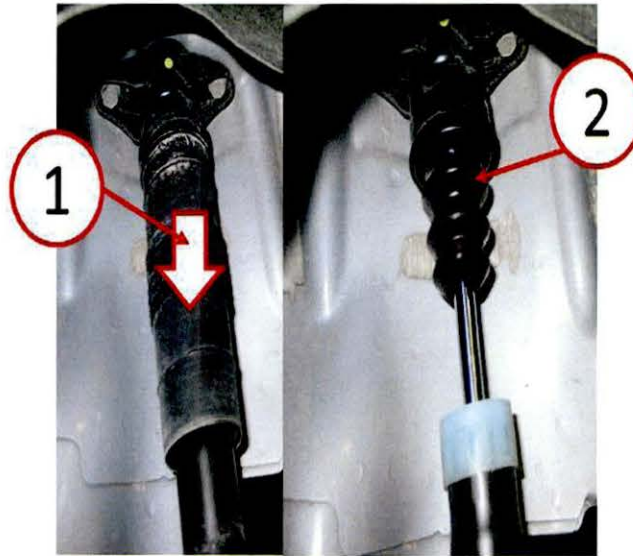

Fig. 2 Dust Boot Removal
6. Pull the dust boot (1) downward from the top of the shock to expose the jounce bumper (2) (Fig. 2).